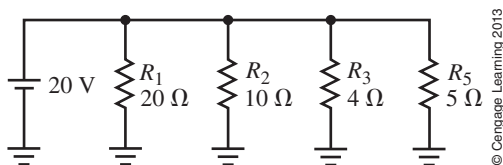

FIGURE 6–81
40. Refer to the circuit of Figure 6–82.